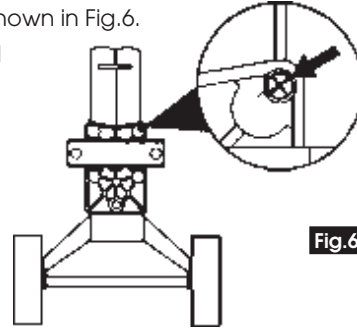

Fig.6
On the end of the machine, is a bleed screw shown in Fig.6.
- 3.1 Ensure that the log pusher of the machine is fully retracted then unscrew the breather a few turns, (see fig. 6).